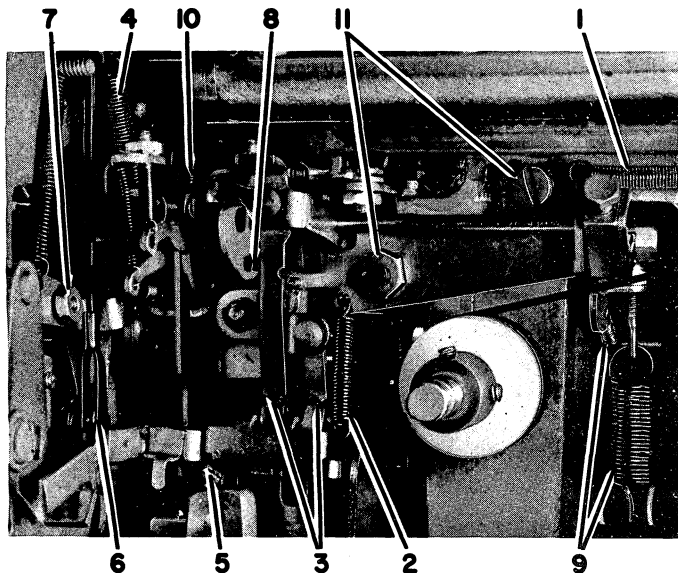

Figure 48. Operational Latch Bracket Removal
5. Disconnect the backspace-rack spring (#1, Figure 48).
6. Disconnect the cam-follower spring (#2, Figure 48).
7. Disconnect the spacebar and tab-latch springs (#3, Figure 48).
9. Disconnect the detent spring (#4, Figure 48).
10. Disconnect the carrier-return latch spring (#5, Figure 48).
11. Remove the index-selection link (#6, Figure 48).
centric nut (#7, Figure 48).
13. Remove the escapement link (#8, Figure 48).
14. Disconnect the carrier-return actuating spring and carrier-return actuating-arm spring (#9, Figure 48).
15. Remove the escapement-torque-bar restoring spring (#10, Figure 48).
16. Remove the two mounting screws (the left one is not visible) and one nut (#11, Figure 48).